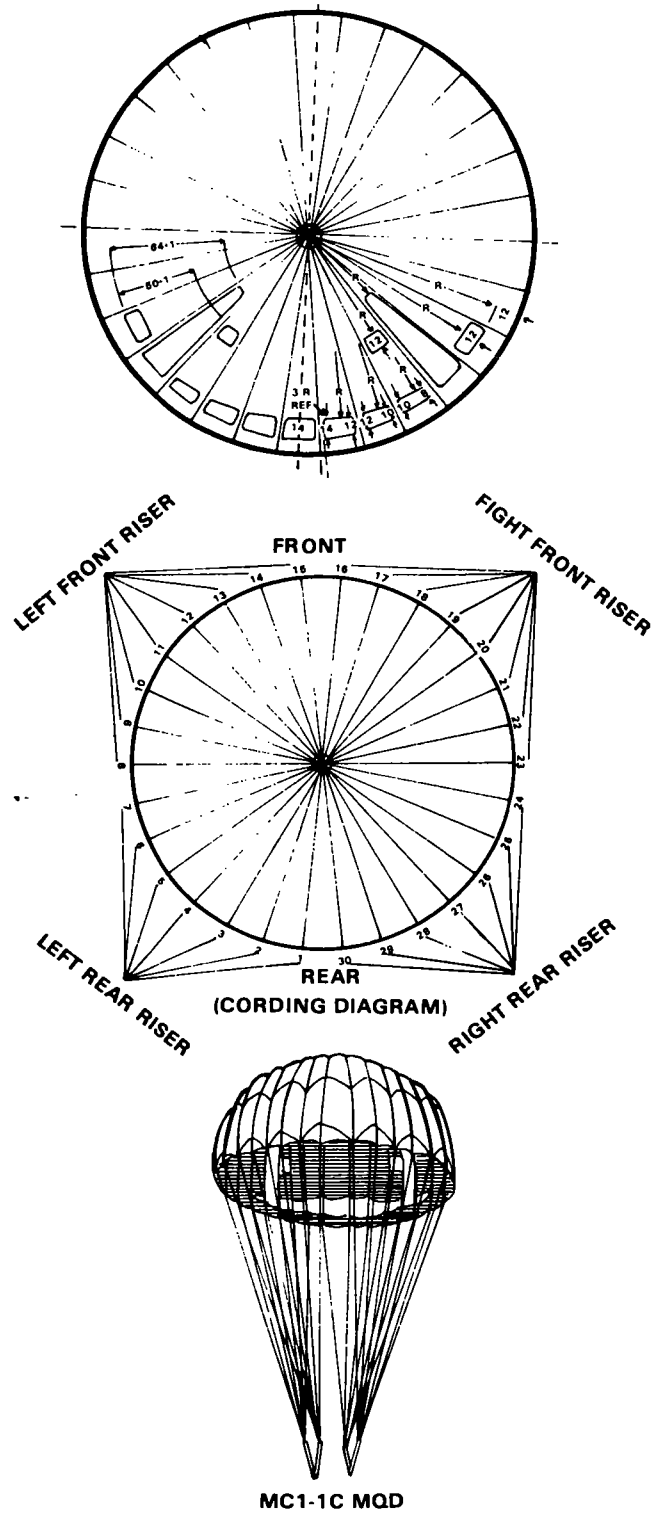

Figure 9-2. NOPO MC1-1C canopy.
(12) Suspension lines (30) are Type II nylon with a tensile strength of 375 pounds. They are 25 feet, 6 inches long when measured from the lower lateral band to the L-bar connector link.
(13) Anti-inversion net is sewn 18 inches down on each suspension line and is made of 3 3/4-inch square mesh, knotless, braided nylon.
c. The MC1-1C (Figure 9-2, page 9-6) canopy is the same basic design as the MC1-1B with the exception of the following:
(1) An estimated ~~15 feet per~~ ^{See Chg 1} _{25 June 91} second descent rate and a 7.7-second turn rate.
(2) No porosity (NOPO) material (0-3 CFM).
(3) Vent cap is removed.
(4) Suspension lines are shortened to 22 feet.
(5) Cording of the suspension lines are 8 on the front risers and 7 on the rear.
(6) H-TC modification — 60-foot square orifice.